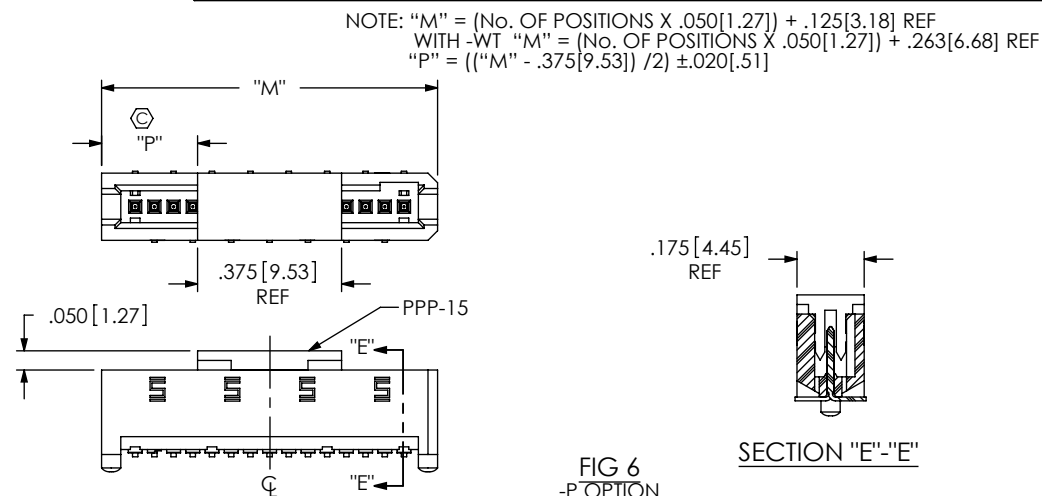

FIG 6
- P: PICK AND PLACE PAD (USE PPP-15) (SEE FIG 6, SHEET 2) (NOT AVAILABLE -03, -04 & -05 POSITIONS)